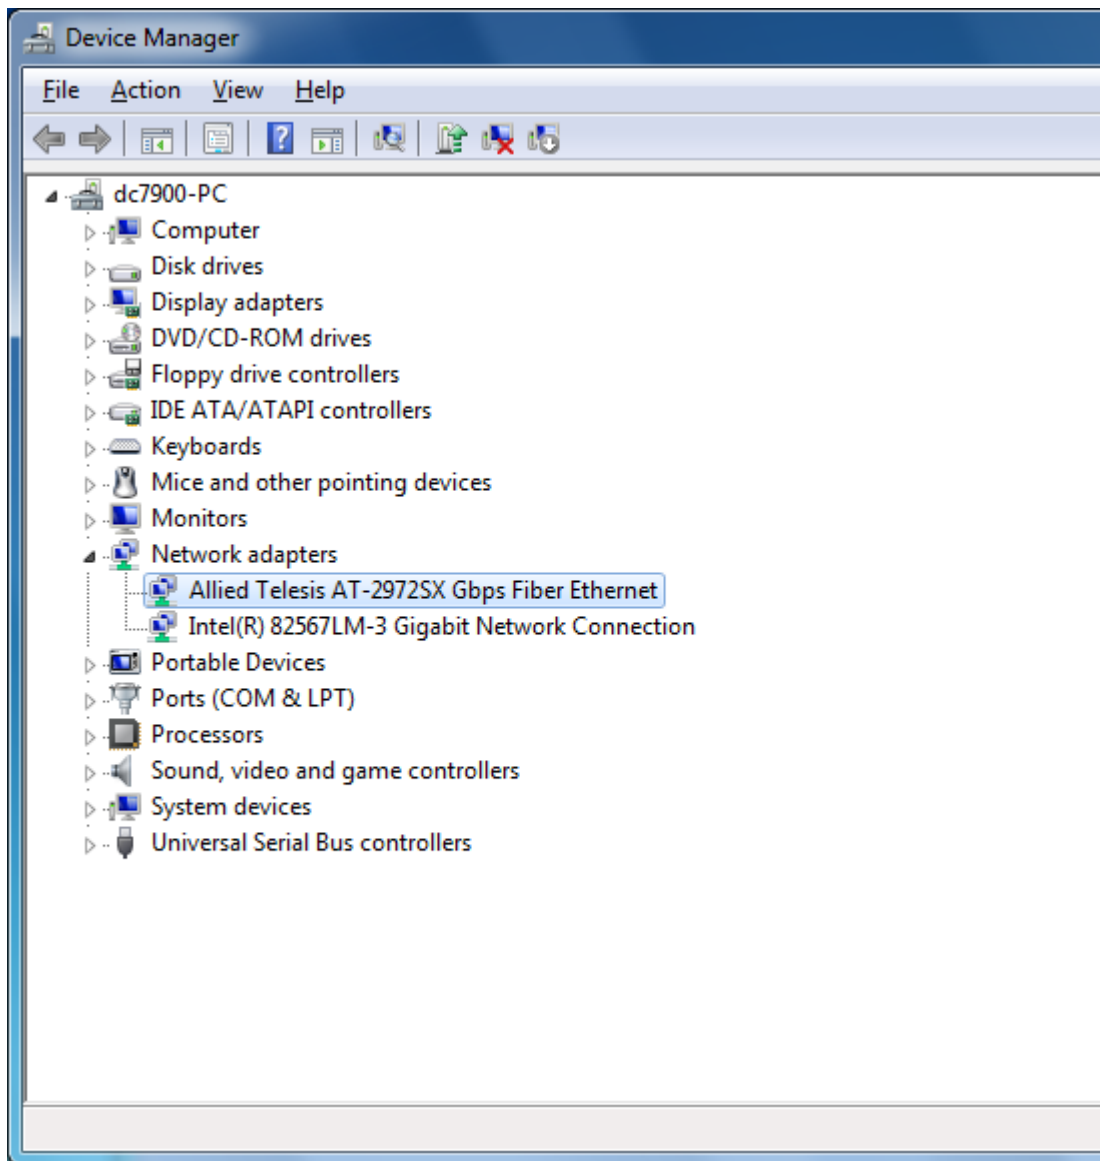

Figure 16. Device Manager Window
4. From the Computer Management Window, select Device Manager in the left panel. The Device Manager window is displayed. See Figure 16 on page 46.
The Device Manager window for an AT-2972SX adapter is shown in Figure 16.
The Device Manager Window is shown in Figure 16 on page 46.